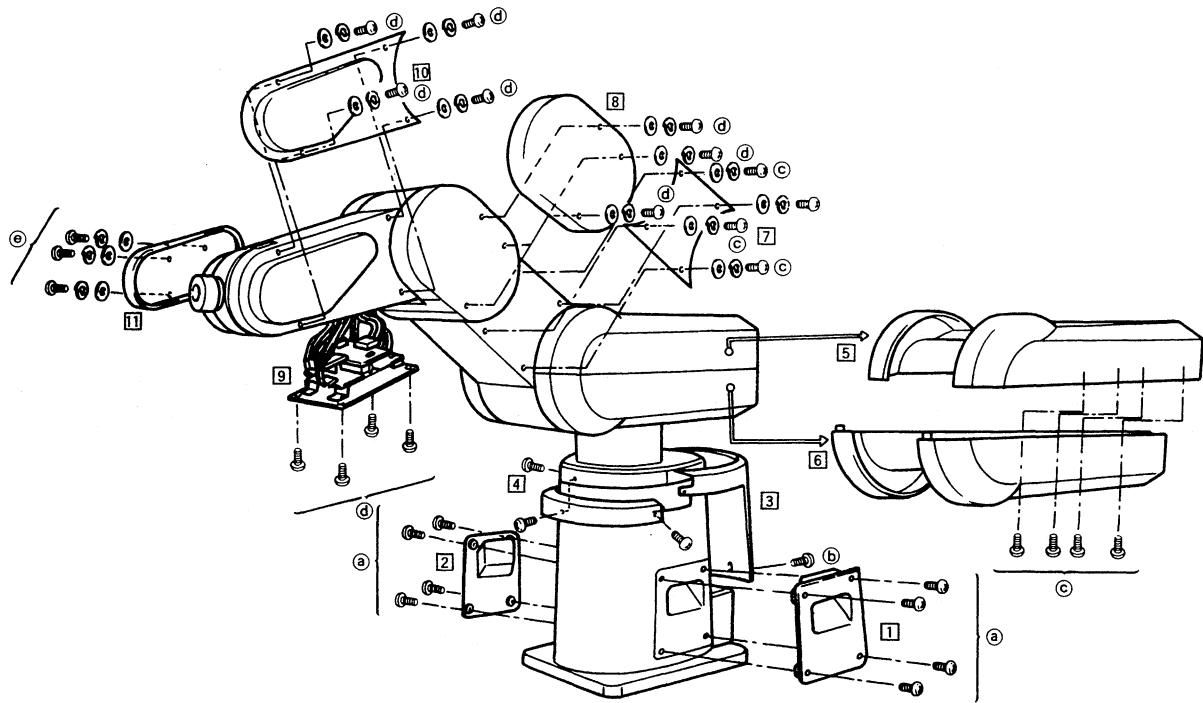

Fig. 4.3.2 Removal of Covers
- (1) Whenever the robot is to be serviced, remove the covers as shown in Fig. 4.3.2.
- (2) Tables 4.3.1 and 4.3.2 list the covers and installation screws, respectively.
- (3) Some covers may be hard to remove depending on the position of the robot. In such cases, move the robot as appropriate so that the covers can be removed easily.
- (4) Reinstall the covers in reverse order of removal.